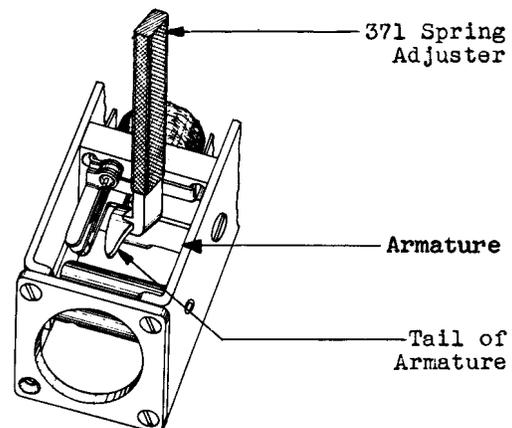

Fig. 10 – Adjusting Tail of Armature
(3) If the contact separation and contact follow are close to their respective minimum values and the relay fails to meet its operate requirement, it may be due to the tail of the armature being distorted so that the armature gap does not decrease uniformly as the relay operates, or due to an excessive gap between armature and core when the armature is in its operated position.
(4) If the tail of the armature is distorted, remove the relay from the mounting as described in 3.002 and operate the armature manually, noting that the separation between the armature and core is least when the armature is in the fully operated position. Should this separation be less at any other point, adjust the tail of the armature with the 371 spring adjuster applied as shown in Fig. 10. Hold the armature in the operated position and adjust the required portion of the tail of the armature by exerting a slight pulling force on the spring adjuster (toward the front of the relay). Exercise care when adjusting the tail of the armature since the slightest deformation may affect the correct operation of the relay. After each adjustment of the tail of the armature, operate the armature manually and recheck the separation between each point on the armature and the core as the armature is being operated.
(5) If the gap between the armature and core is excessive when the armature is in